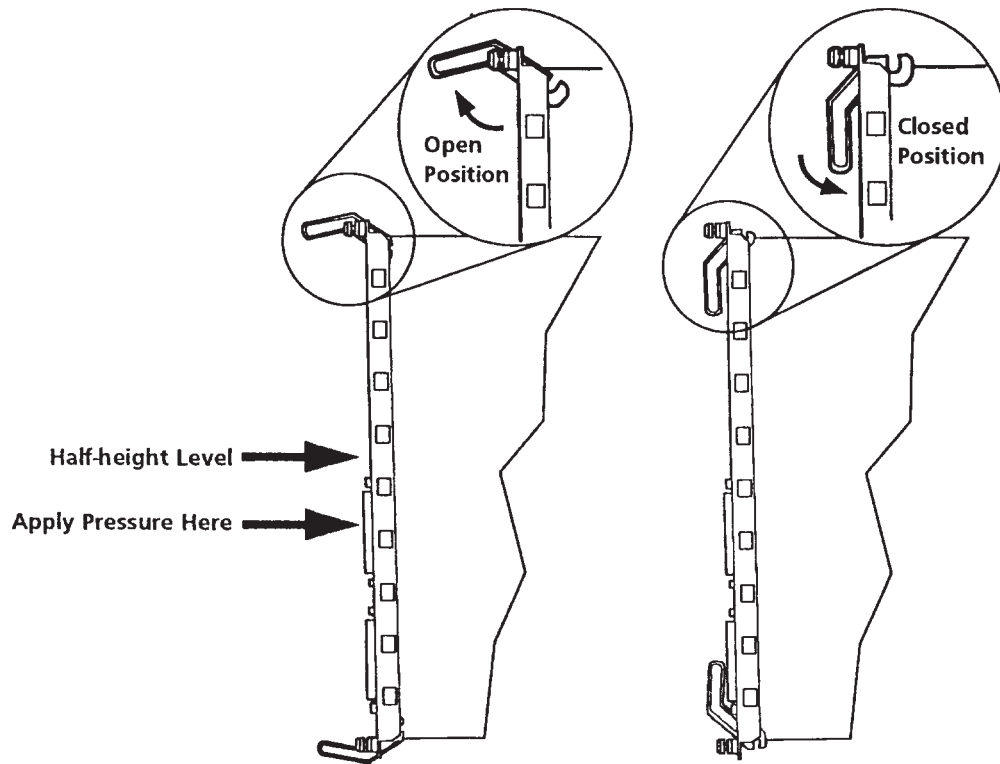

Figure 8. 8260 Module Ejectors
6. Insert the ATMflex module into one of the free slots in the hub as shown in Figure 7 on page 39, matching the top and bottom board guides as you slide the module cleanly into place (by pressing evenly on the top and bottom of the faceplate). Do not attempt to push the module all the way into the hub until you have verified that the top and bottom module ejectors are OPEN (see Figure 8 on page 40.)